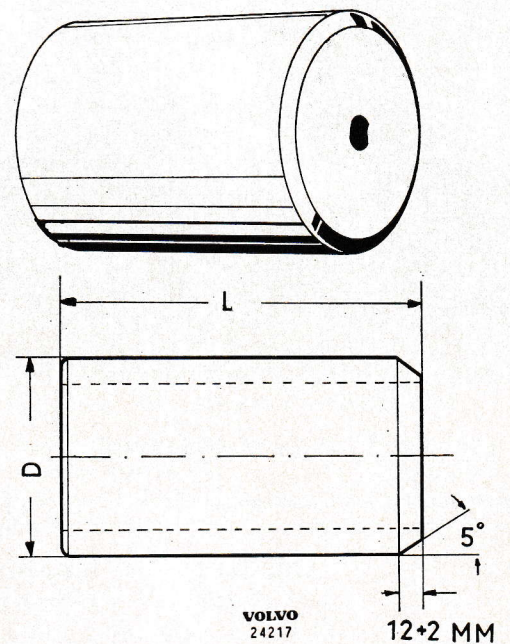

Fig. 32. Press drift (starter motor EGD).
4. Before fitting new field coils, these should be warmed slightly. Then place the pole shoes in position in the field coils and slide them into the stator. Tighten the pole screws slightly. Press in a suitable drift (for measurements, see Fig. 32). Set up the stator in the holding device and tighten the pole shoes.